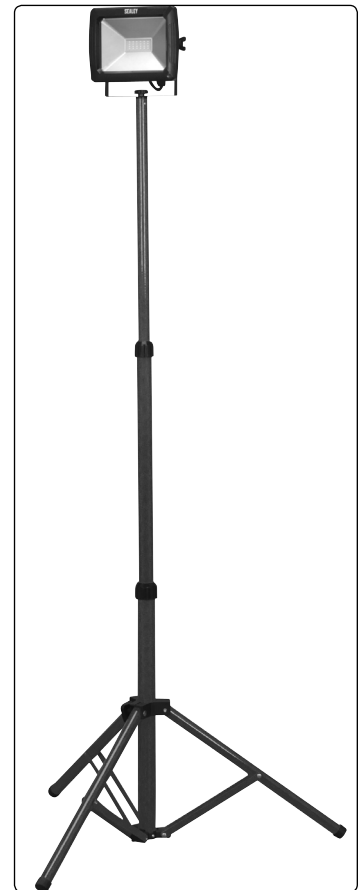

fig.1
- 4.1. Extend tripod legs to full extent fig.1. Adjust height as required by releasing screw clamps on telescopic pole, re-tighten clamps at desired height.